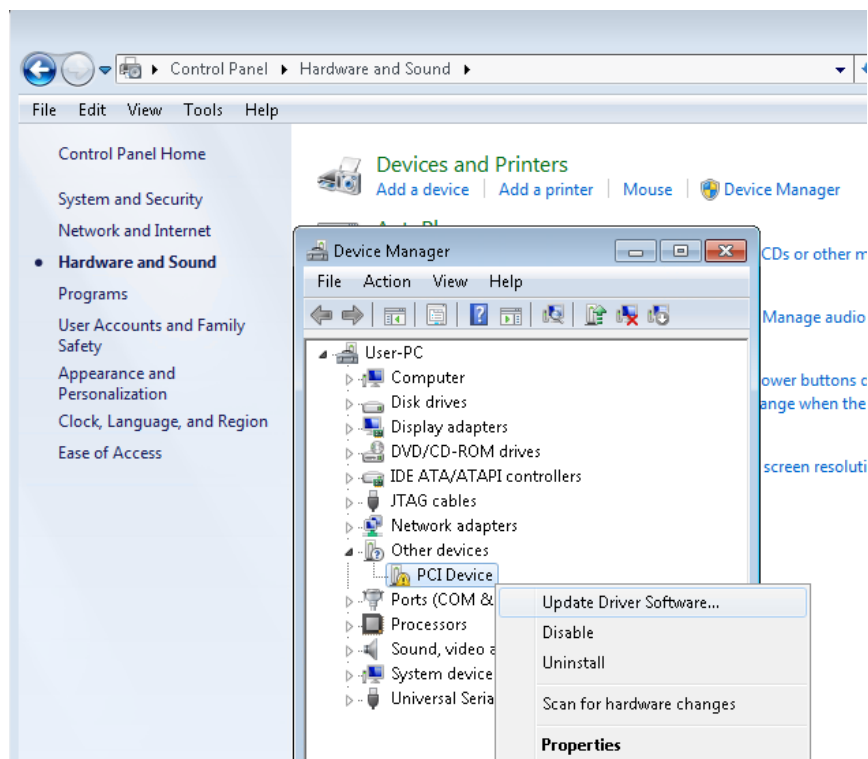

Figure 7-4 Screenshot of launching Update Driver Software dialog
7. Click the Control Panel menu from the Windows Start menu. Click the Hardware and the Sound item before clicking the Device Manager to launch the Device Manager dialog. There will be a PCI Device item in the dialog, as shown in **Figure 7-4**. Move the mouse cursor to the PCI Device item and right click it to select the Update Driver Software... item.